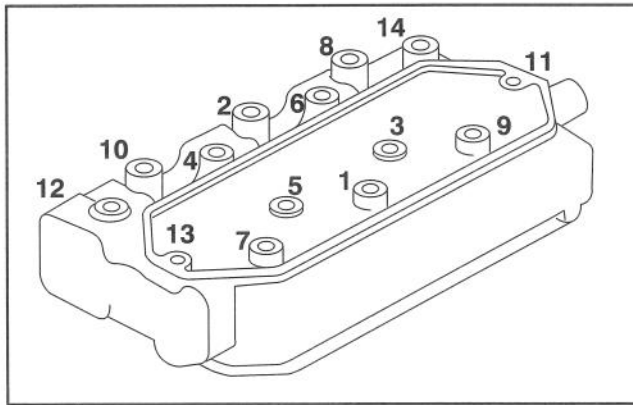

Figure 36
2. Using sequence in figure 36, torque head bolts to 25 ft/lb.